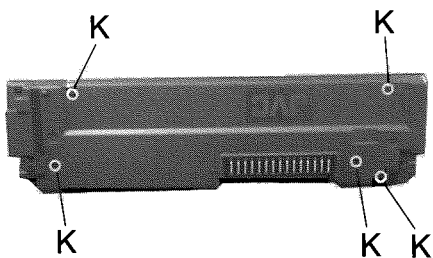

Fig 9
■ **Front panel unit (See fig9)**